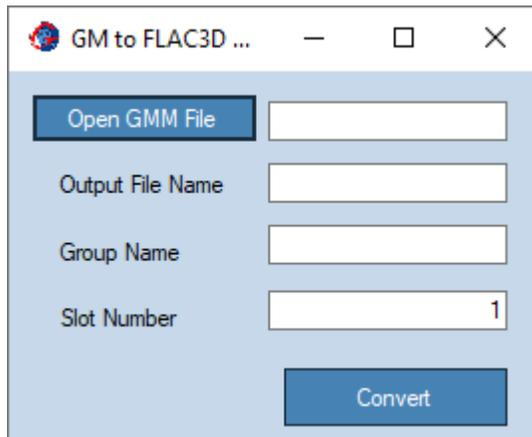

Figure 15: *Geo Meshing v3.2* to Flac3D® Geometry dialog window.
- **GM to Flac3D® Geometry:** Opens a dialog window (shown in Figure 15) for converting *Geo Meshing v3.2* meshes to Flac3d® geometry. The resulting file can be imported in Flac3D® using *Open Item/Geometric Data: Import* option.